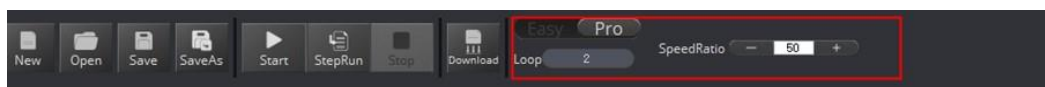

Figure 5.14 Set Easy/Pro, Loop, Speed
- You can switch mode between **Easy** and **Pro** modes, set loop, speed ratio, as shown in Figure 5.14.